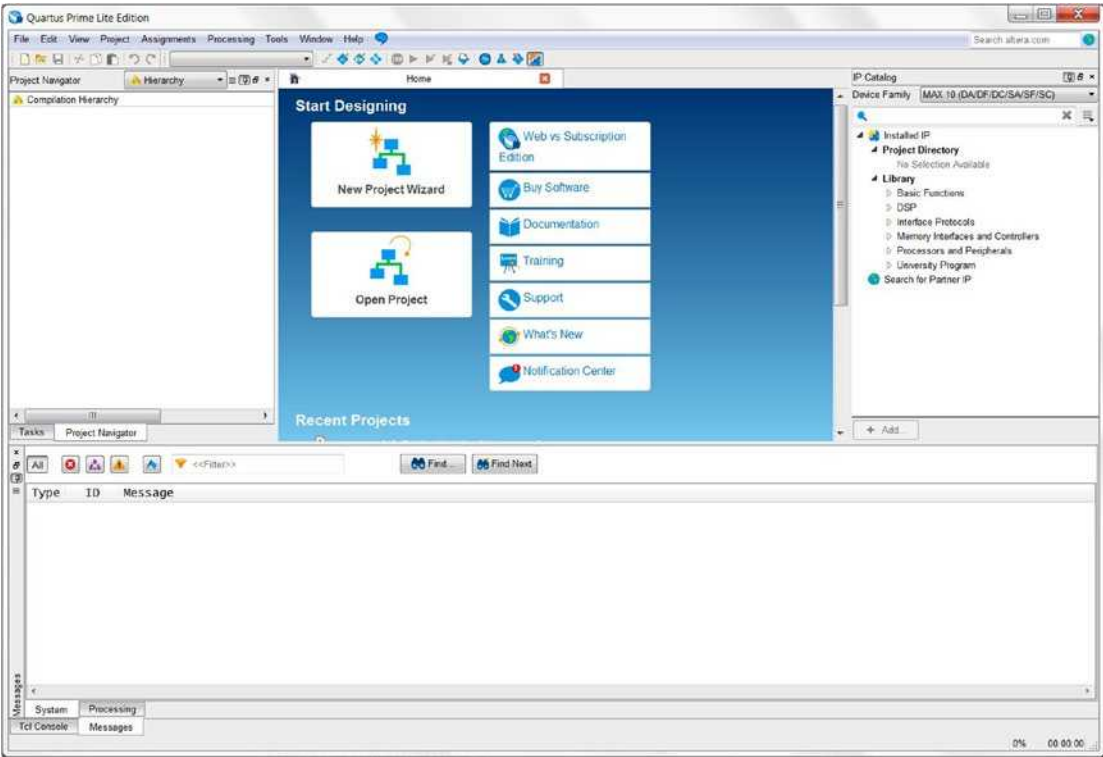

Figure 4-1. *Quartus Prime Lite Edition*
1. Click **Start** ► **All Programs** ► **Altera 15.1.x.xxx Lite Edition** ► **Quartus Prime Lite Edition 15.1.x.xxx** ► **Quartus Prime 15.1**, or click the shortcut on your desktop. The Quartus Prime Lite Edition will open. The first time you open Quartus Prime, it look like Figure 4-1.